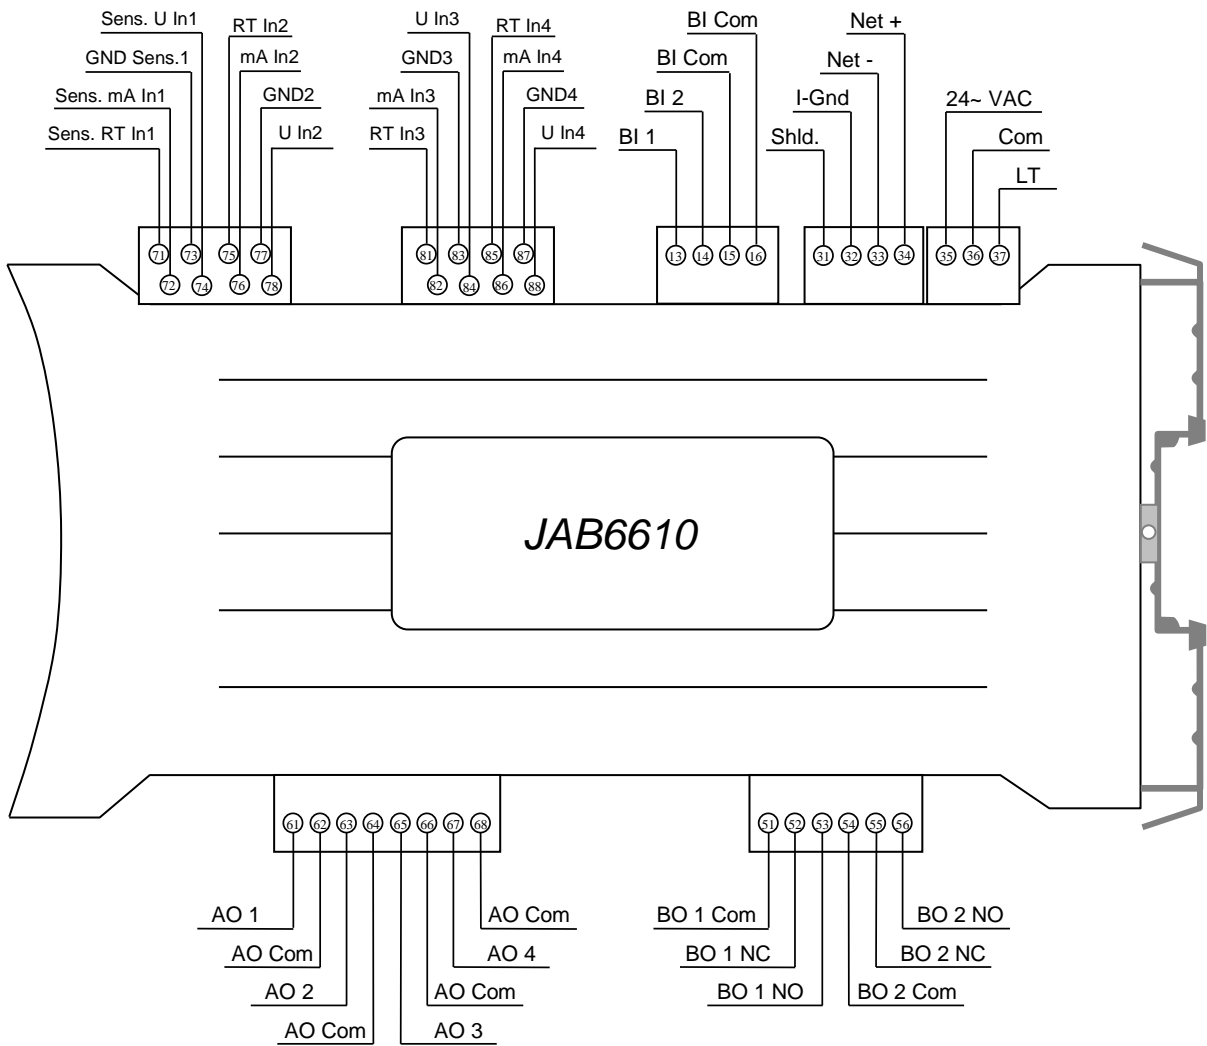

Figure 1: JAB6610 Module Wiring Interface
1. Terminate wiring per engineering drawings (see Figure 1).